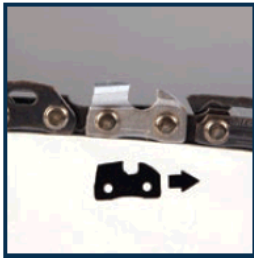

Fig.3
3. Place the saw chain(14) in the groove of the guide bar(13), pay attention to the correct running direction, as shown by the running direction symbol (fig.3)